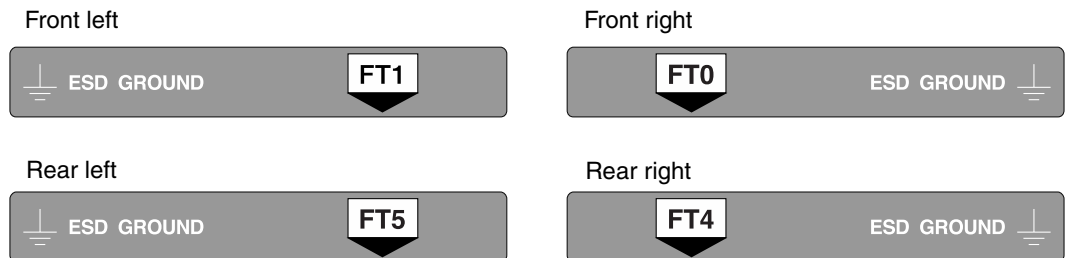

FIGURE B-1 ESD GROUND and Top Fan Tray Component Number Labels
The four (4) electrostatic device (ESD) grounding connections and the top fan tray component numbers (FT0, FT1, FT4, and FT5, right-to-left) are combined into one label for each of the four top positions (FIGURE B-1).